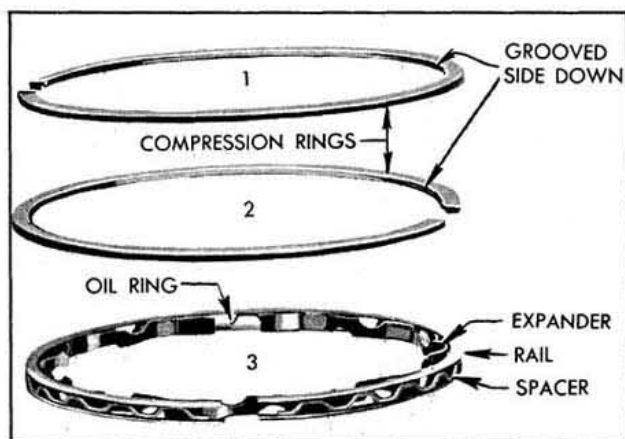

Fig. 3-27 Piston Rings
7. Remove compression rings with expander and remove oil ring by removing the two rails and spacer-expander which are separate pieces in each piston third groove. (Fig. 3-27)